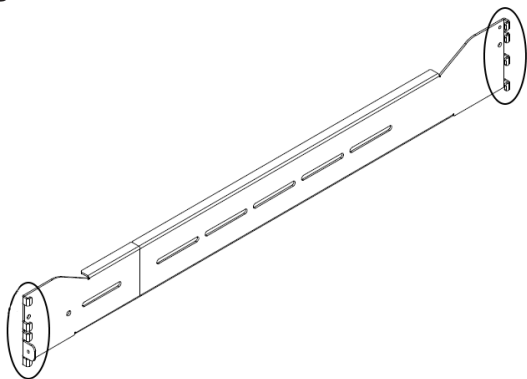

Figure 1
3. Align the **Mounting Hooks** (See Figure 1) with the desired **Mounting Location** and install the **Sliding Rail Assemblies** into the **Rack**.